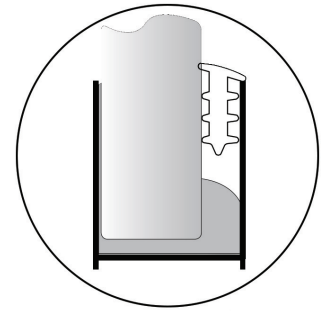

FIG 11.
- Starting at the top of the wall channel, from outside shower, spray with warm soapy water then insert rubber wedge seal into gap (removing timber wedges if used). (FIG 11) Leave rubber wedge protruding 40mm at top to cut off later.